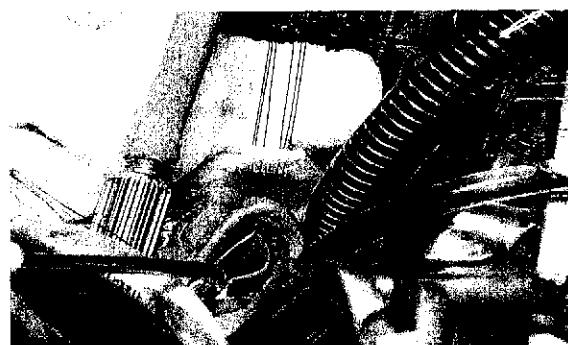

Figure 8
To affix each tab to the aortic wall, use three (3) separate mattress sutures with pledgets: two (2) lateral sutures and one (1) horizontal suture (See **Figure 8** below).